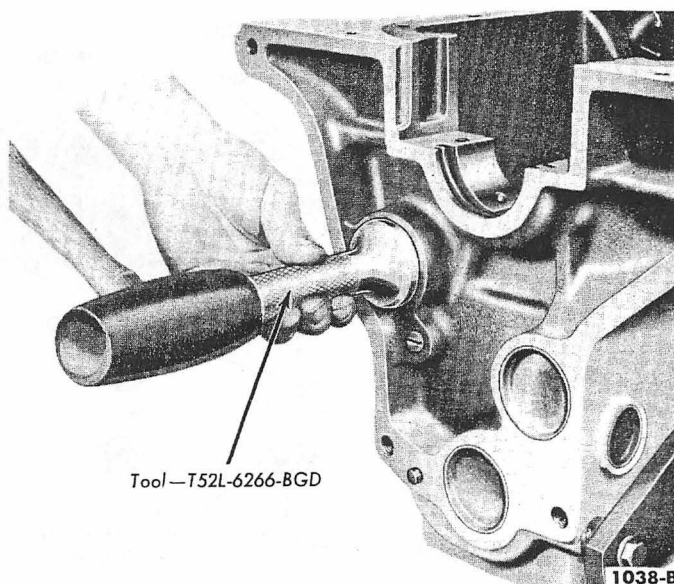

Fig. 32—Camshaft Rear Bearing Bore Plug Installation
3. Clean the camshaft rear bearing bore plug recess thoroughly. Coat the flange of a new plug with water resistant sealer and install it with the flange facing out (Fig. 32). Drive the plug in until the flange is flush or slightly below the casting surface. Install the camshaft and related parts. Install the engine in the chassis.